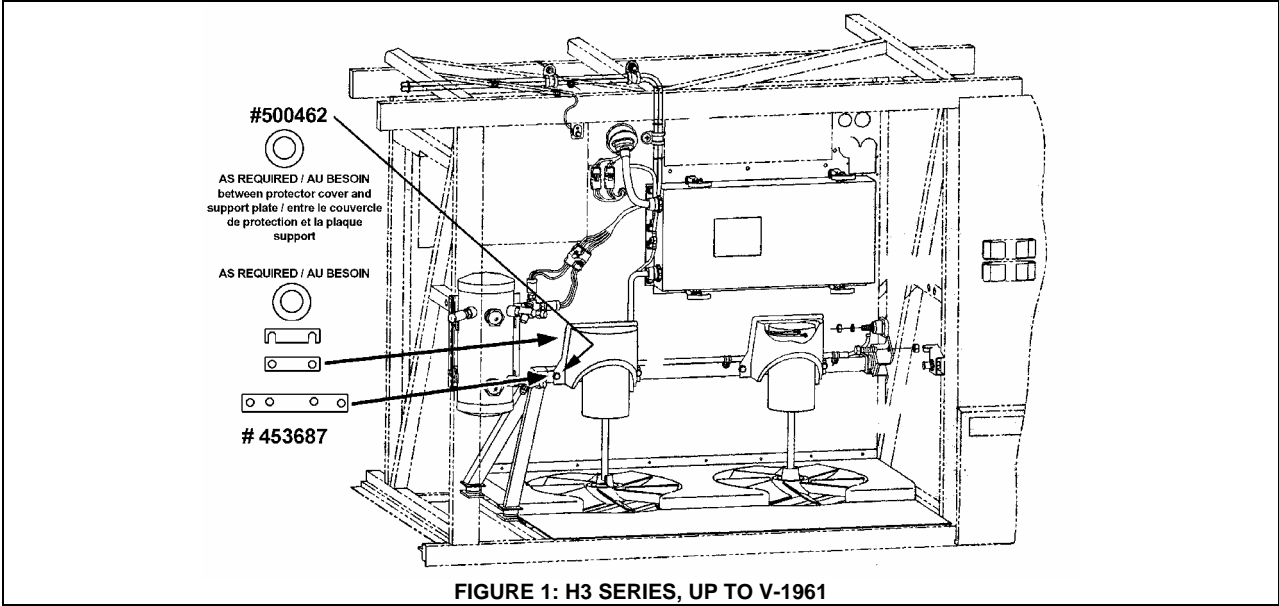

FIGURE 1: H3 SERIES, UP TO V-1961
5. Fix the fans onto the shaft and install the new drive motor as per figure 1, 2 or 3 depending on the type of vehicle. Use the included shims or flat washers if needed to center the fan in the circular opening.